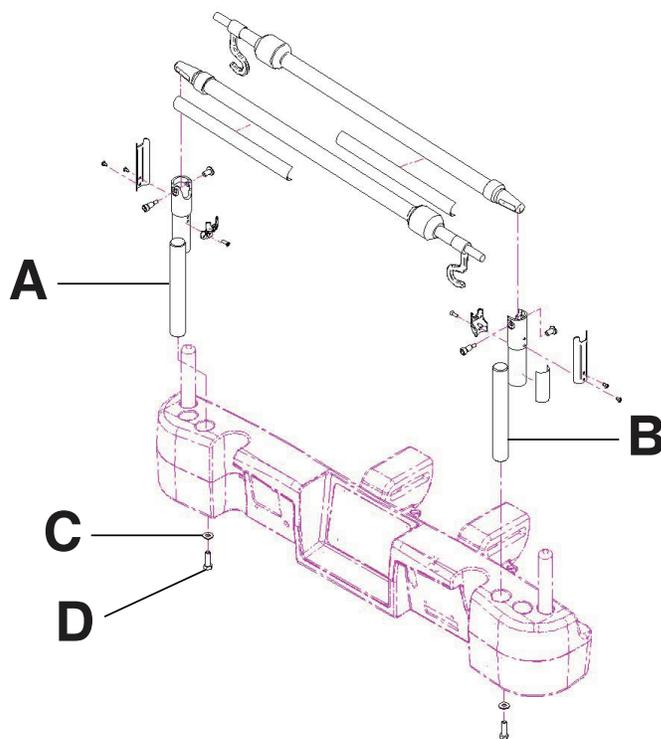

Figure 121: Dual two stage IV pole
1. Using a 3/8 in. drive ratchet and a 1/2 in. socket, install one washer (C) and one bolt (D) to secure the IV pole to the socket at the head end of the product (A) (Figure 121 on page 105).
2. Using a 3/8 in. drive ratchet and a 1/2 in. socket, install one washer (C) and one bolt (D) to secure the IV pole support into the socket at the head end of the product (B) (Figure 121 on page 105).